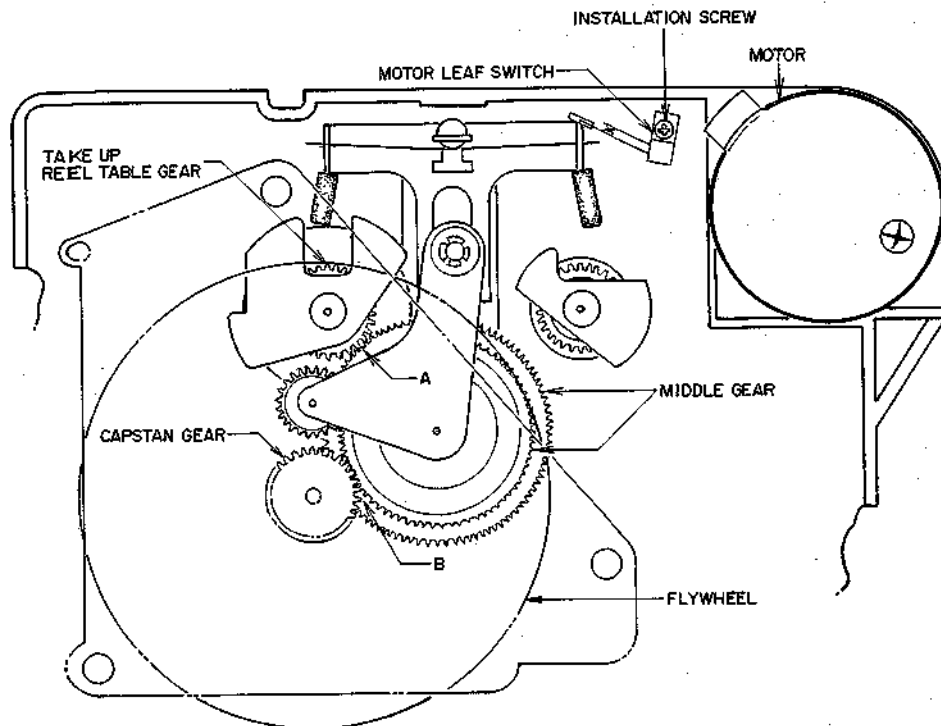

Fig. 17 Motor Leaf Switch Timing Adjustment
1. MOTOR LEAF SWITCH TIMING ADJUSTMENT (Refer to Fig. 17)